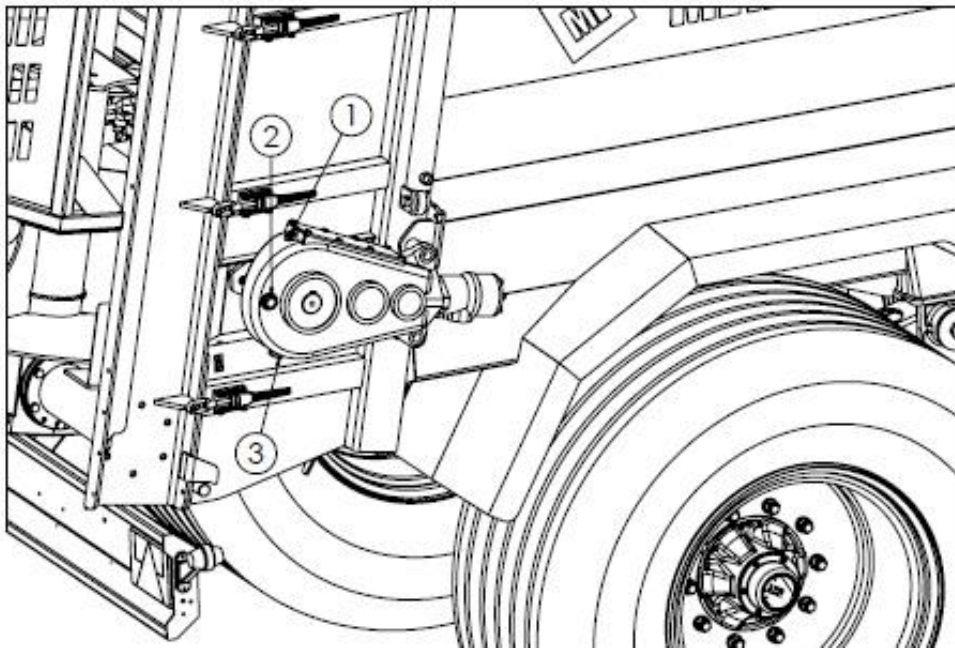

Figure 36. Oil level control points in the floor conveyor's transmission:
To drain the oil from the gear unit (Fig. 36, 37), unscrew the drain plugs (3). Fill the gearboxes with new oil via the oil filler (1) until oil becomes visible in a sight glass (2). The correct oil level is reached when the oil is visible in the middle of the sight glass.